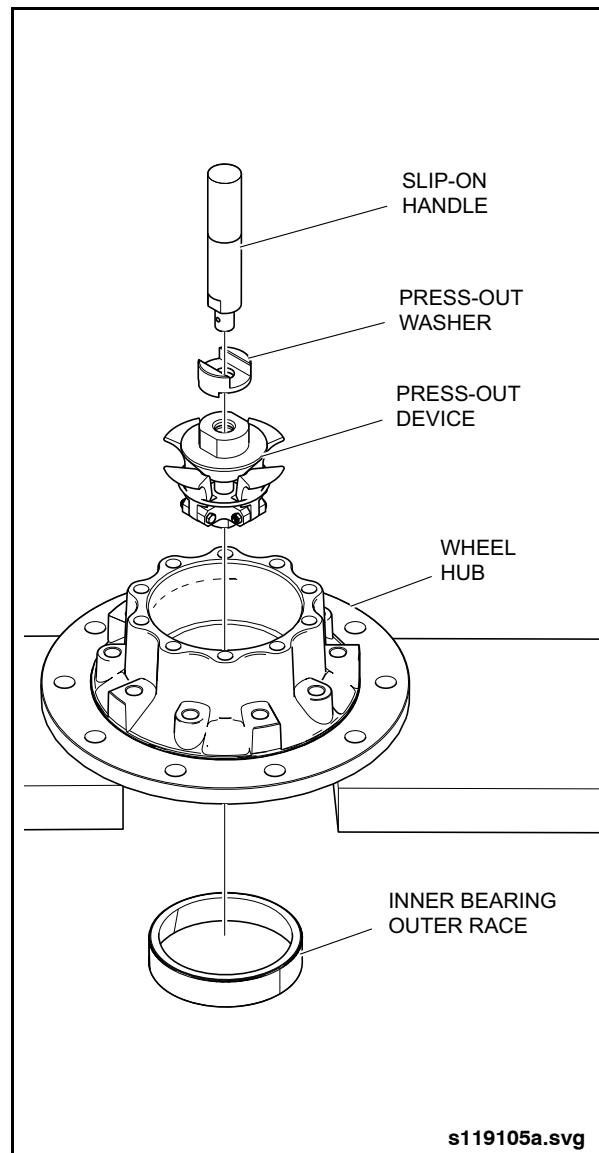

Fig. 2-23: Removing Inner Bearing Outer Race
1. Place the wheel hub on its inner bearing support with wood underneath. See "Fig. 2-23: Removing Inner Bearing Outer Race" on page 24.